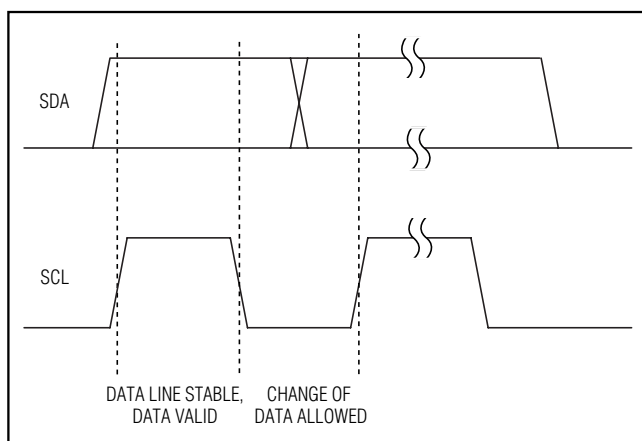
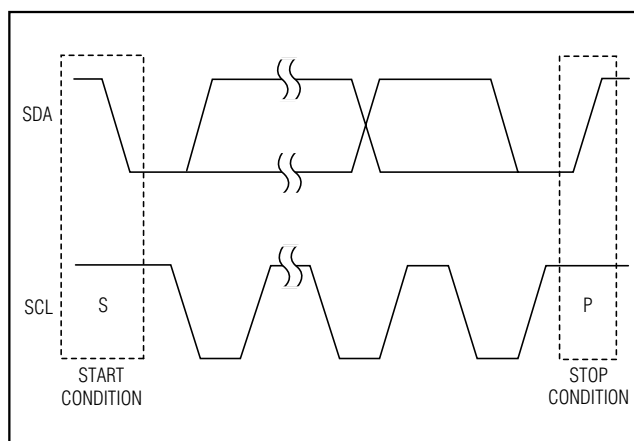

Figure 7. Bit Transfer
Figure 8. Start and Stop Conditions
Each clock pulse transfers one data bit. The data on SDA must remain stable while SCL is high (see Figure 7), otherwise the MAX6884/MAX6885 register a START or STOP condition (see Figure 8) from the master. SDA and SCL idle high when the bus is not busy.
Both SCL and SDA idle high when the bus is not busy. A master device signals the beginning of a transmission with a START (S) condition (see Figure 8) by transitioning SDA from high to low while SCL is high. The master device issues a STOP (P) condition (see Figure 8) by transitioning SDA from low to high while SCL is high. A STOP condition frees the bus for another transmission. The bus remains active if a REPEATED START condition is generated, such as in the block read protocol (see Figure 11).